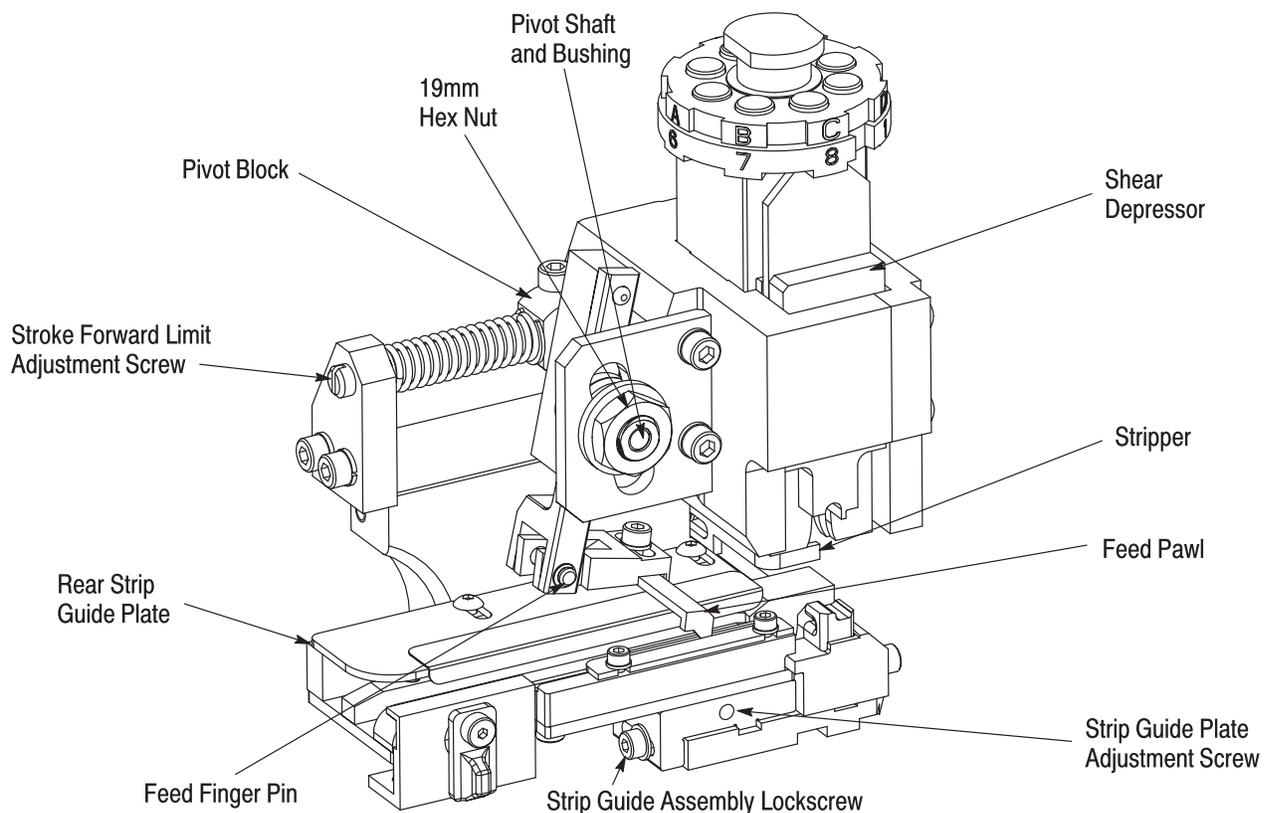

Figure 2
3. Loosen screw on top of pivot block (see Figure 2). Turn the stroke forward limit adjustment screw counterclockwise to move the forward limit toward anvil, or clockwise to move the forward limit away from anvil. Tighten screw on top of pivot block.